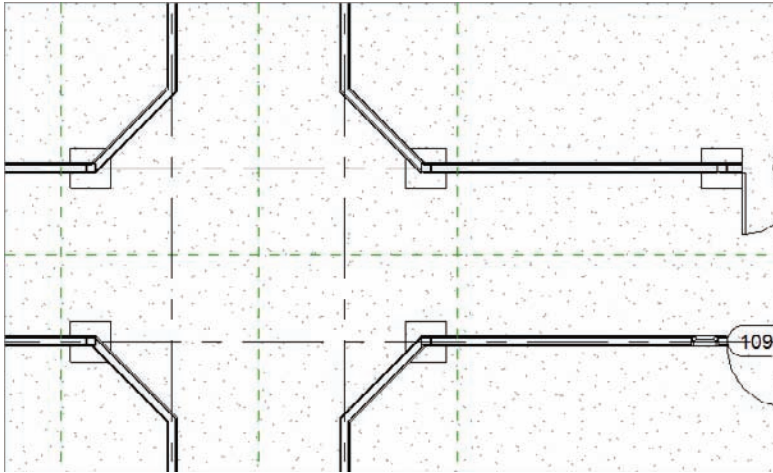

FIGURE 8.66 Making the necessary adjustments
12. Do the same for the pier under the doorway, as shown in Figure 8.66.